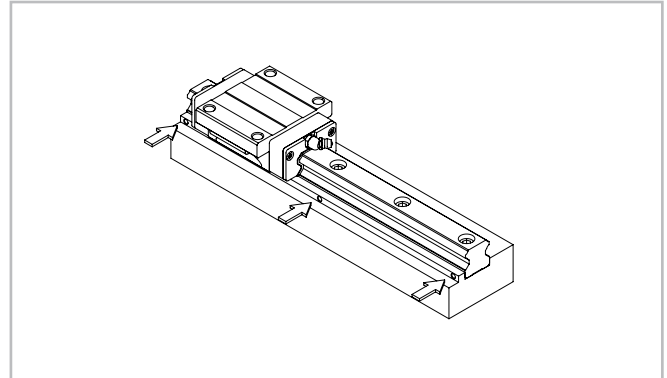

Fig. 42
(3) Tighten the thrust bolts on the guide rail until there is close contact on the side stop surface (see fig. 42).